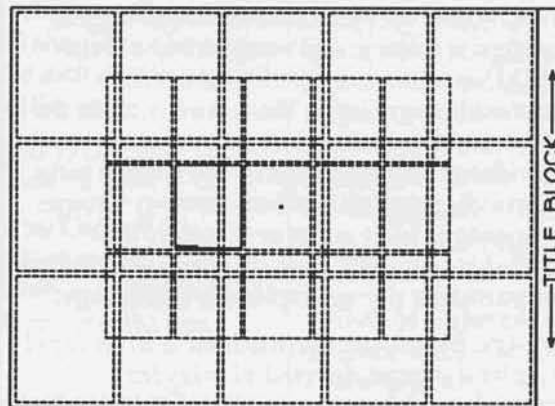
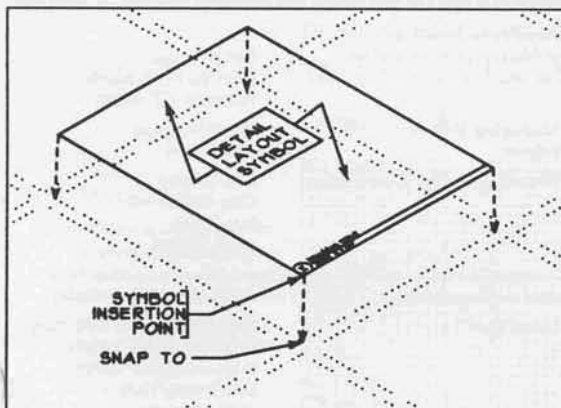

Figure 6
Figure 5
- Enter the **Template** menu (T or t), select the "Master" symbol and place it by either snapping with the middle mouse button to the snapping point in the center of the Border layer [both **LyrSnap** (S5) and **End Pnt** (F2) must be ON in **ObjSnap** (X)] or by using the Absolute Cartesian Input Mode method used to place the Border symbol.
- Place a "Detail Box" symbol as illustrated in Figure 5, snapping to the correct point in the Layout layer. Figure 6 illustrates the result.